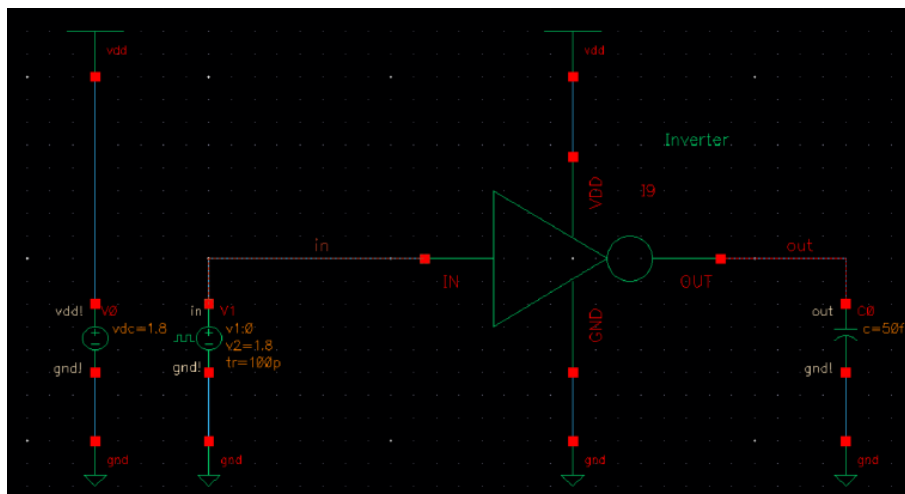

Figure 1. A sample schematic to simulate Inverter.
- Next you add label names to the nets you want to observe after simulation. Choose “create >Wire Name” and then type in a desired wire name in the pop-up window and then click on the corresponding net you want to name. For the case of the inverter, you will observe the input and the output signals and name them as “in” and “out” as shown in the schematic design above in Figure 1.